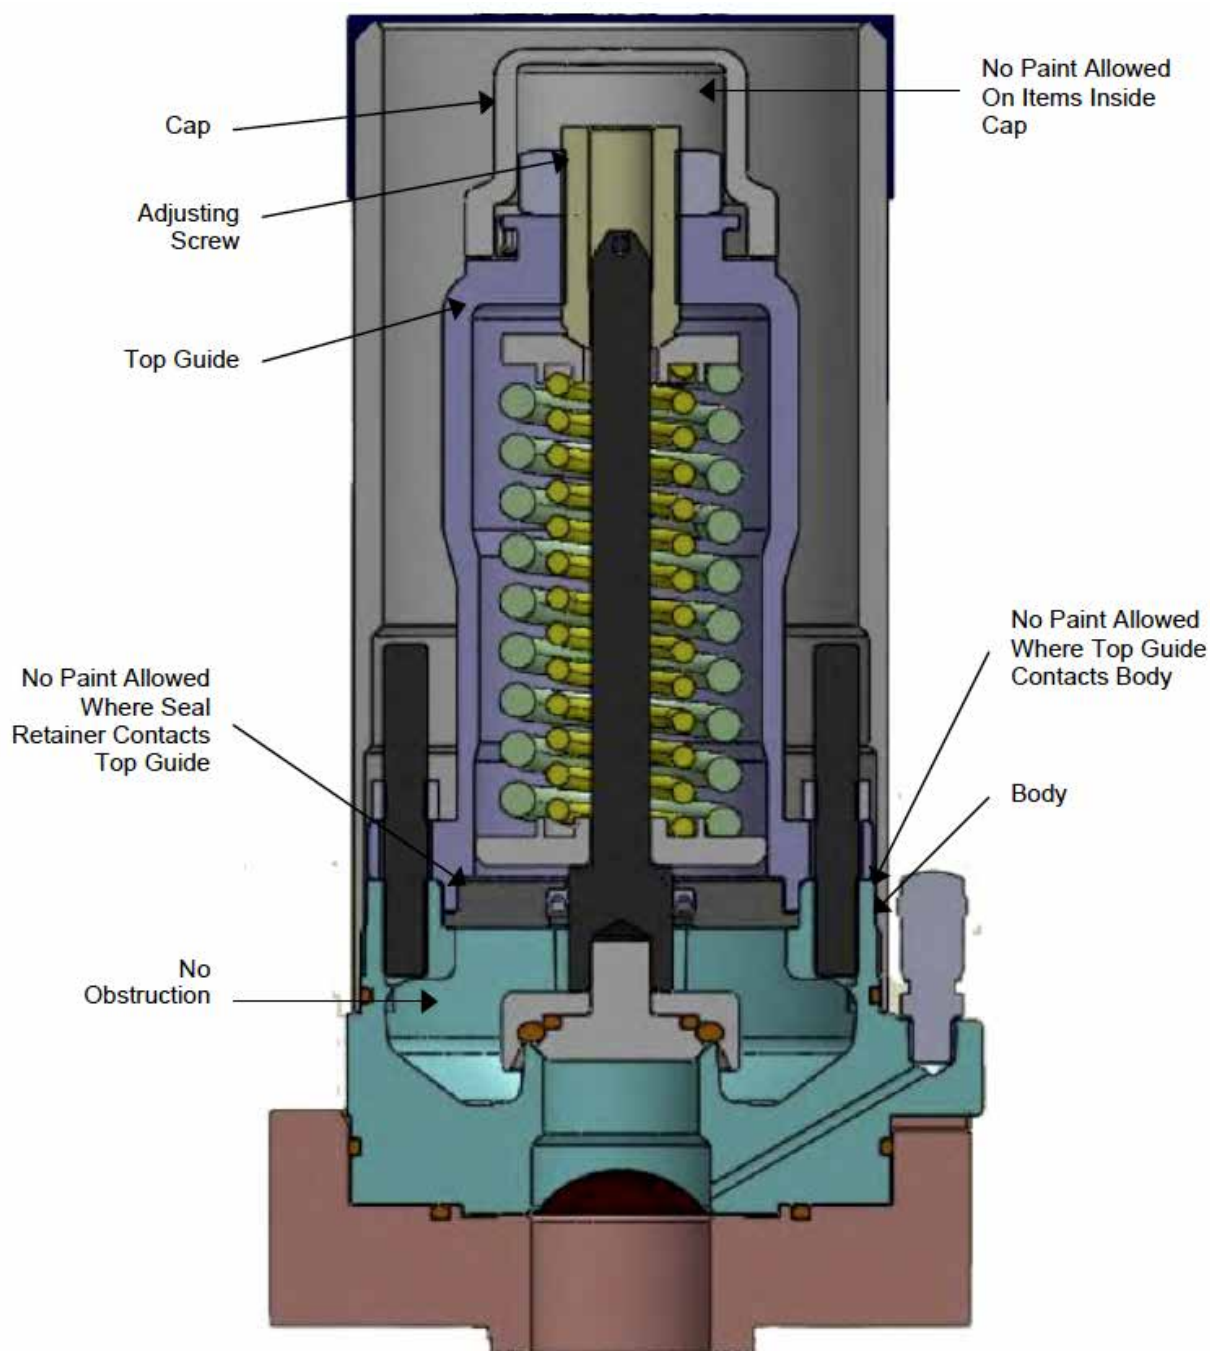

Figure 4-1 Valve Components (Inspection)
- 4.1.1.1** The Top Guide (Figure 4-1) is principally a structural part. There should be no paint on any components covered by the cap, or between adjacent surfaces on the top guide and valve body. The vent area of the valve body must be unobstructed by foreign matter that would hinder free flow of discharging fluid.
- 4.1.2.1** The threads of the adjusting screw (Figure 4-1) should be clean and lightly lubricated.